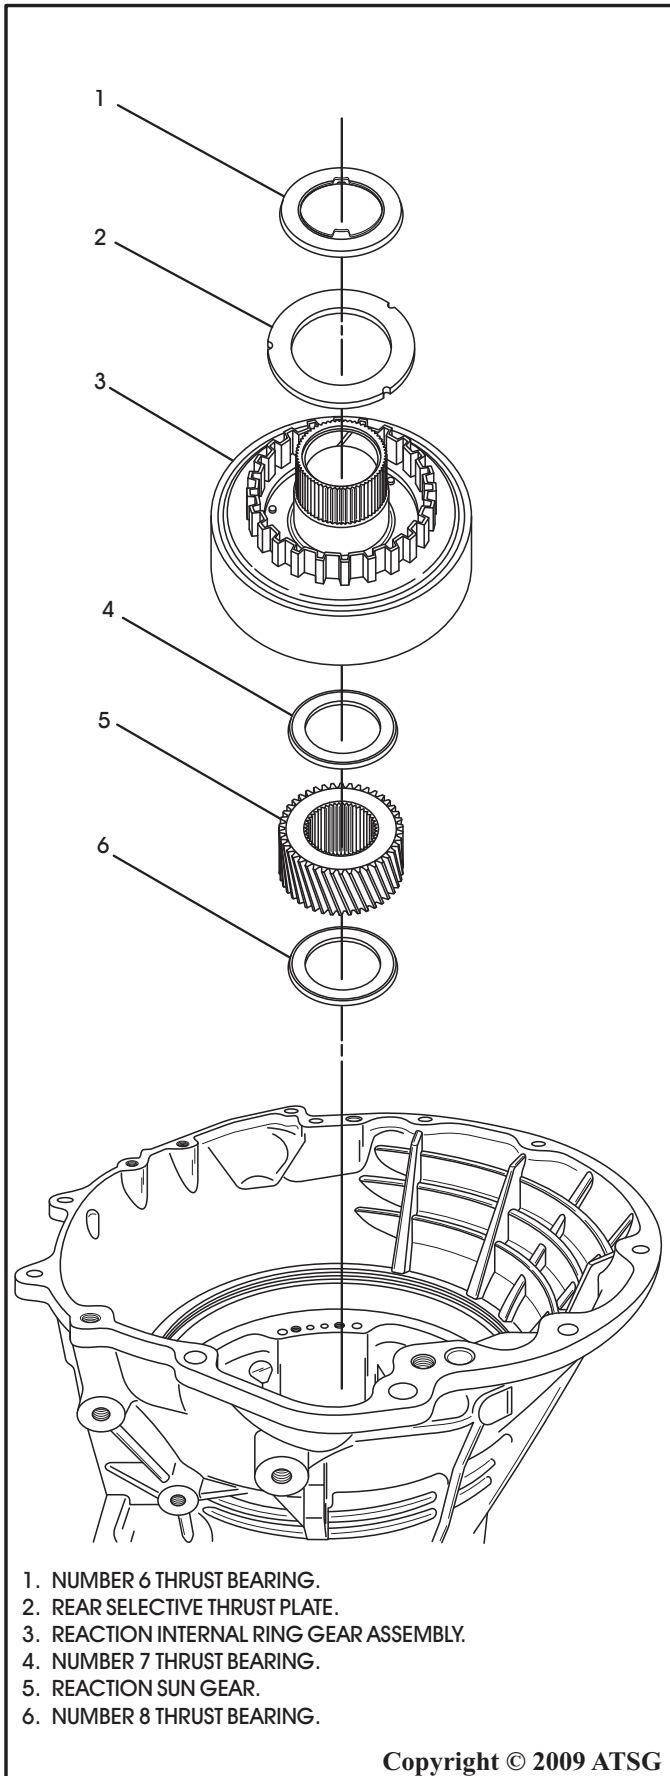

Figure 40
33. Remove the number 6 thrust bearing if it is present. It may have been stuck to the 2-4 retainer (See Figure 40).
34. Remove the rear selective plate as shown in Figure 40.
35. Remove reaction internal ring gear assembly as shown in Figure 40.
36. Remove the number 7 thrust bearing as shown in Figure 40.
37. Remove the reaction sun gear as shown in Figure 40.
38. Remove the number 8 thrust bearing as shown in Figure 40.